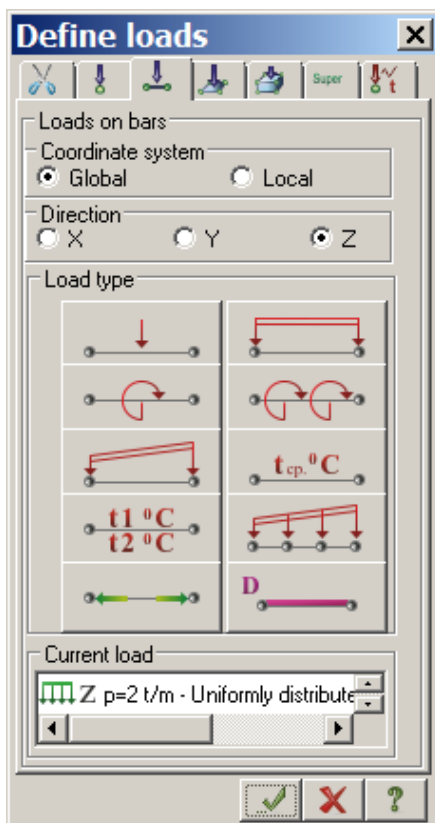

Figure 1.13 **Define loads** dialog box
To define loads on nodes and elements, on the **Create and edit** ribbon tab, select the **Loads** panel and click appropriate command from the **Loads on nodes and elements** drop-down list. In the **Define loads** dialog box (see Fig. 1.13) specify appropriate data.
- ⇒ In the **Define loads** dialog box (see Fig.1.13), specify **Global** coordinate system and direction along the **Z**-axis (default parameters).